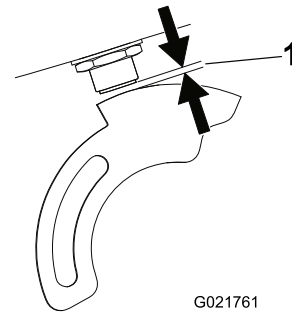

Figure 15
- Using the jam nuts, adjust the proximity switch up or down until the gap between the switch plunger and the sensor plate is 3.8 to 4.3 mm (.150 to .170 inch) (Figure 15). Torque the jam nuts to 20 N-m (15 ft-lb) when the gap is attained.